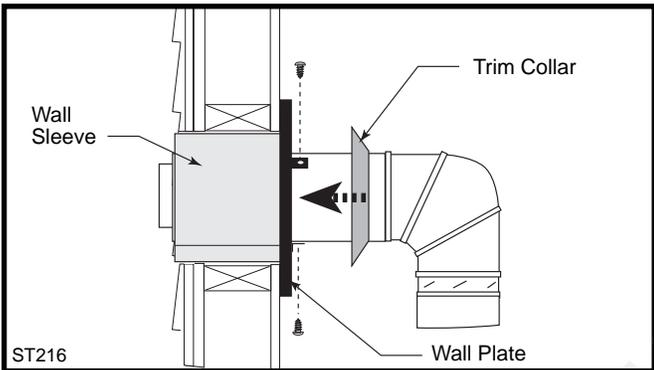

Fig. 35 Install the horizontal pipe and wall plate parts.
9. Connect the horizontal pipe to the elbow. Fasten the wall plate to the pipe with three sheet metal screws. Slide the trim collar up against the wall plate to cover the screws. (Fig. 35)